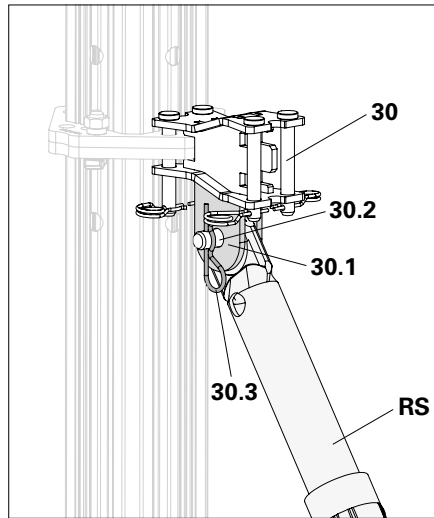

Fig. A8.01
- Connect Push-Pull Prop (RS) and connection lugs (30.1) with bolts (30.2) and cotter pins (30.3). (Fig. A8.01)